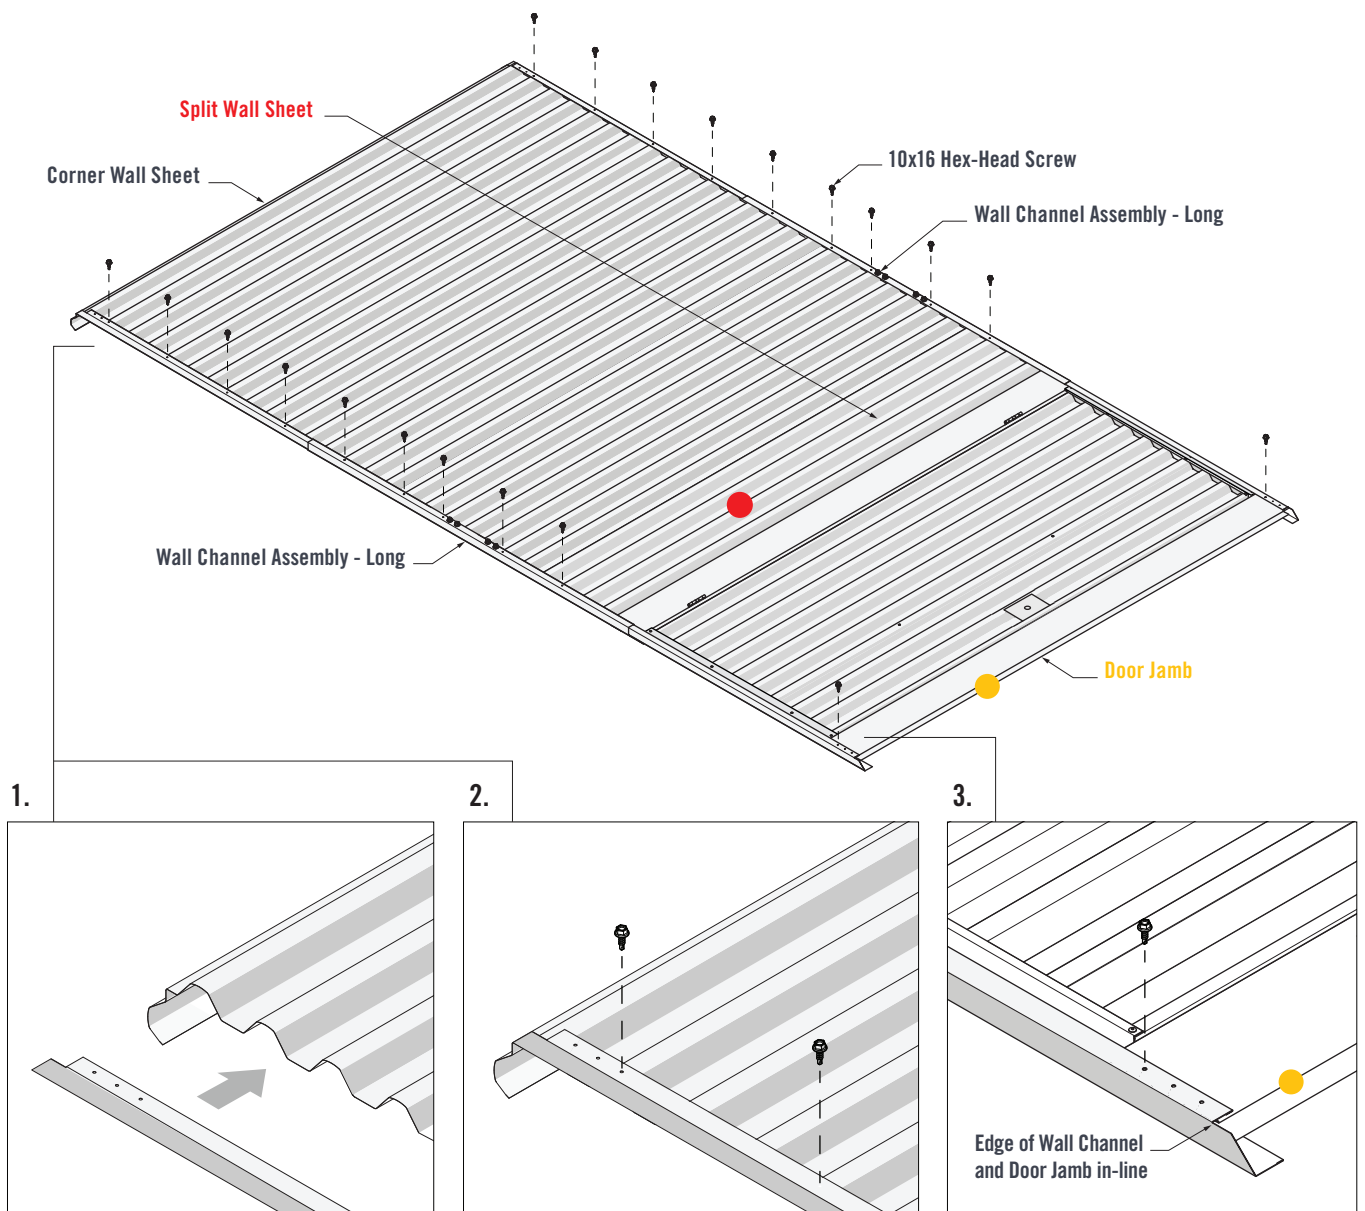

FIGURE 5.2
1. Fit two Wall Channel Assemblies (Long) over the lapped Wall Sheets and Door Jamb. The end of the Wall Channels should fit up against the end of the Corner Wall Sheet (Figure 5.2).
2. Fasten one 10x16 Hex-Head Screw through the third pilot hole of the bottom and top Wall Channels and into the Corner Wall Sheet crest. Fasten eight 10x16 Hex-Head Screws through the bottom and top Wall Channels and into every third Wall Sheet crest (Figure 5.2).
3. Ensure the edge of the Wall Channels and Door Jamb are in-line. Fasten one 10x16 Hex-Head Screw through the third pilot hole of the bottom and top Wall Channels and into the Door Jamb (Figure 5.2).